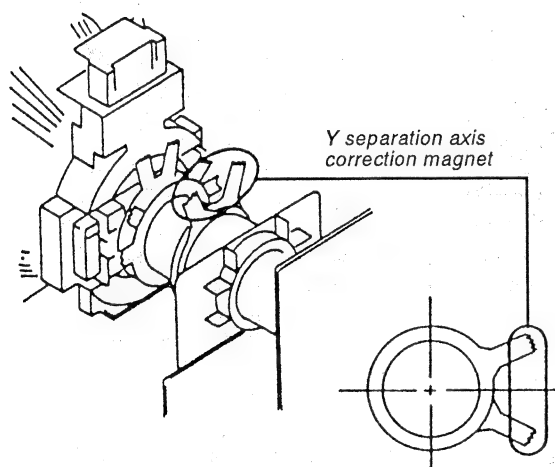

Fig. 3-1
3. Loosen the retention device on the deflection yoke and adjust the purity adjustment knob in the center (Fig. 3-1).